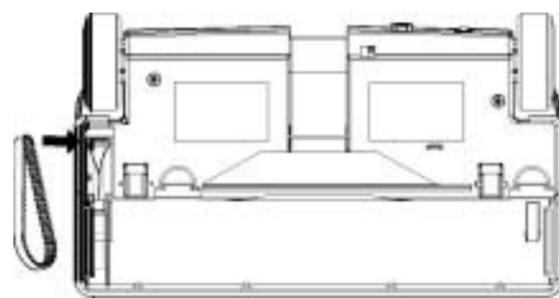

Figure 10
4. Slip the new cogged belt over the gear on the motor shaft (as shown in Figure 10).
7. Replace the brush cover as described in item 6 under "Brush Roll Cleaning," Page 5.